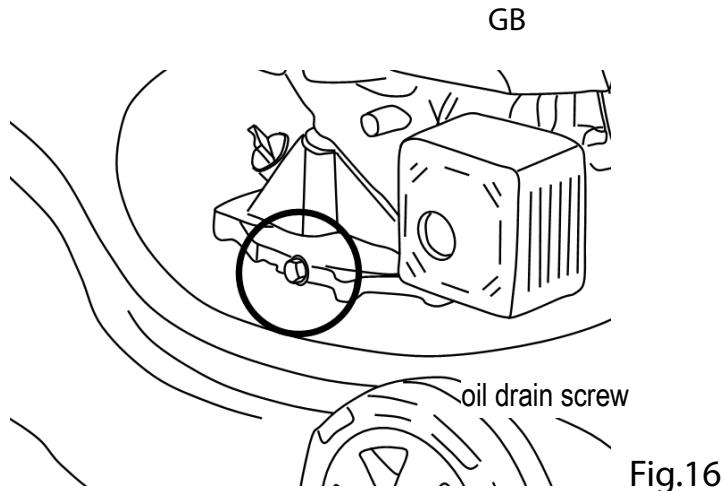

Fig.16
- 2) Loosen the oil drain screw with a hex key and remove it (Fig. 16).